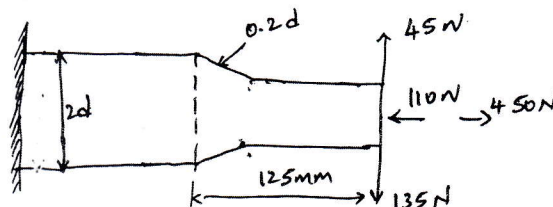

Fig.Q4(b)
- b. A steel cantilever member as shown below Fig.Q4(b) is subjected to a transverse load at its end varies from 45 N top of 135 N down. An axial load varies from 110 N compression to 450 N tension. Determine the required diameter at the change of section of infinite life using a factor of safety of 2. The strength properties of material are  $\sigma_u = 550$  MPa,  $\sigma_r = 470$  MPa endurance limit from reversed bending test  $\sigma_c = 275$  MPa. Notch sensitivity index  $q = 1$ . Assume  $K = 1.635$ ,  $e_{sz} = 0.85$ ,  $e_l = 0.7$ ,  $e_{sr} = 0.83$  for axial and for bending  $K = 1.44$  and  $e_{sr} = 0.83$ .